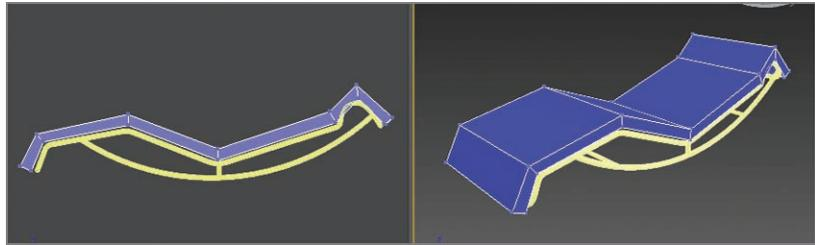

FIGURE 4.28 Arrange the vertices on the box so they follow the lounge chair frame.
5. Switch to Vertex mode (1); select and move the vertices where the segments are and line them up to follow the chair frame, as shown in Figure 4.28.